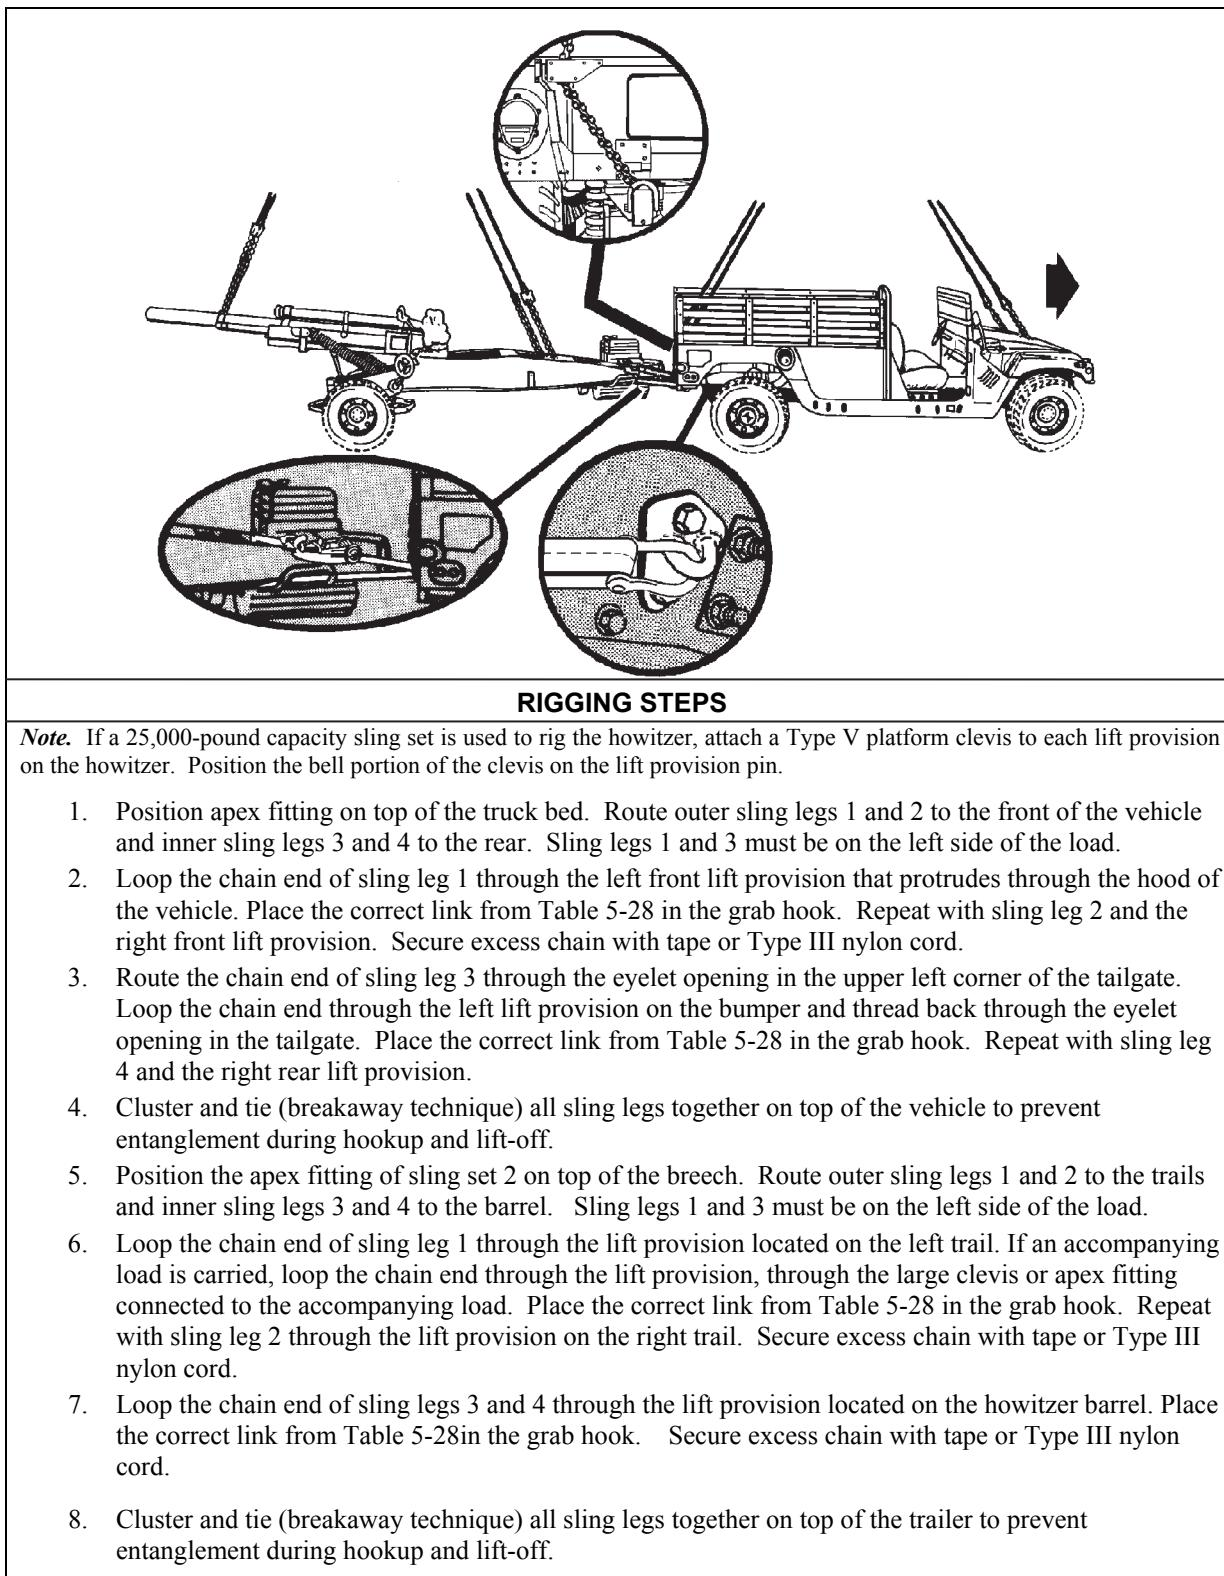

Figure 5-28. M998/M1038 Cargo Truck and M102, 105-mm Howitzer
- **Rigging.** Rig the load according to the steps in Figure 5-28.